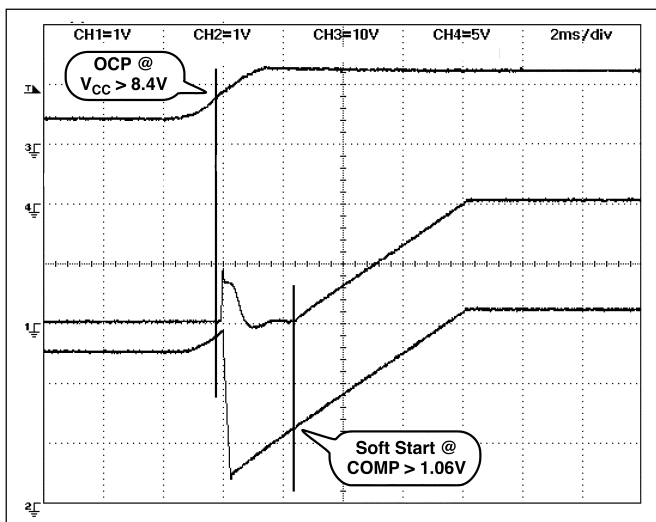

Figure 10: Startup with COMP pre-charged to 2V (2ms/div).
If the voltage across the Current Sense resistor generates a voltage difference between the V_{FB} and V_{OUT} pins that exceeds the OVC Comparator Offset Voltage (86mV typical), the Fault latch is set. This causes the COMP pin to be quickly discharged, turning off GATE(H) and the upper NFET since the voltage on the COMP pin is now less than the 1.1V PWM comparator offset. The Fault latch is reset when the voltage on the COMP decreases below the Discharge threshold voltage (0.25V typical). The COMP capacitor will again begin to charge, and when it exceeds the 1.1V PWM comparator offset, the regulator output will Soft Start normally (see Figure 10).